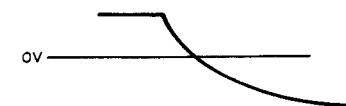

Fig. 6-4 Voltage at ①⑤ terminal when FS1 = 0 → 1
- III \$03 FS1 becomes 1 from the status described above and the current source of +60μA is disconnected. Then, the CR's charge/discharge circuit is formed and the voltage at ①⑤ terminal decreases as the time elapses as shown in Fig. 6-4.